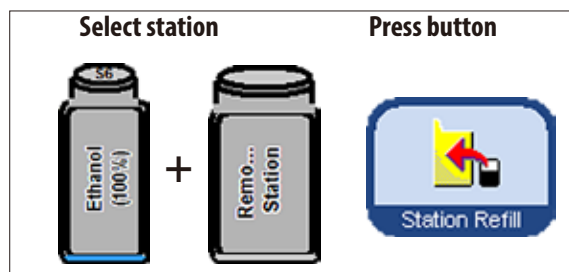

Fig. 168
- On the screen, select an empty system bottle (e.g. **S6**) and the external receptacle (**Remote Station**, Fig. 168).